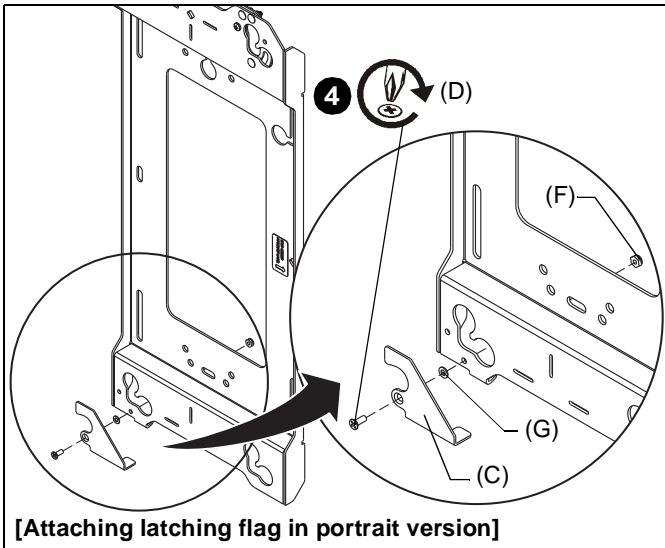

Figure 4
4. Install latching flag (C) using one 10-24 x 1/2" flat head Phillips screw (D), one spacer (G), and one 10-24 lock nut (F). (See Figure 4)